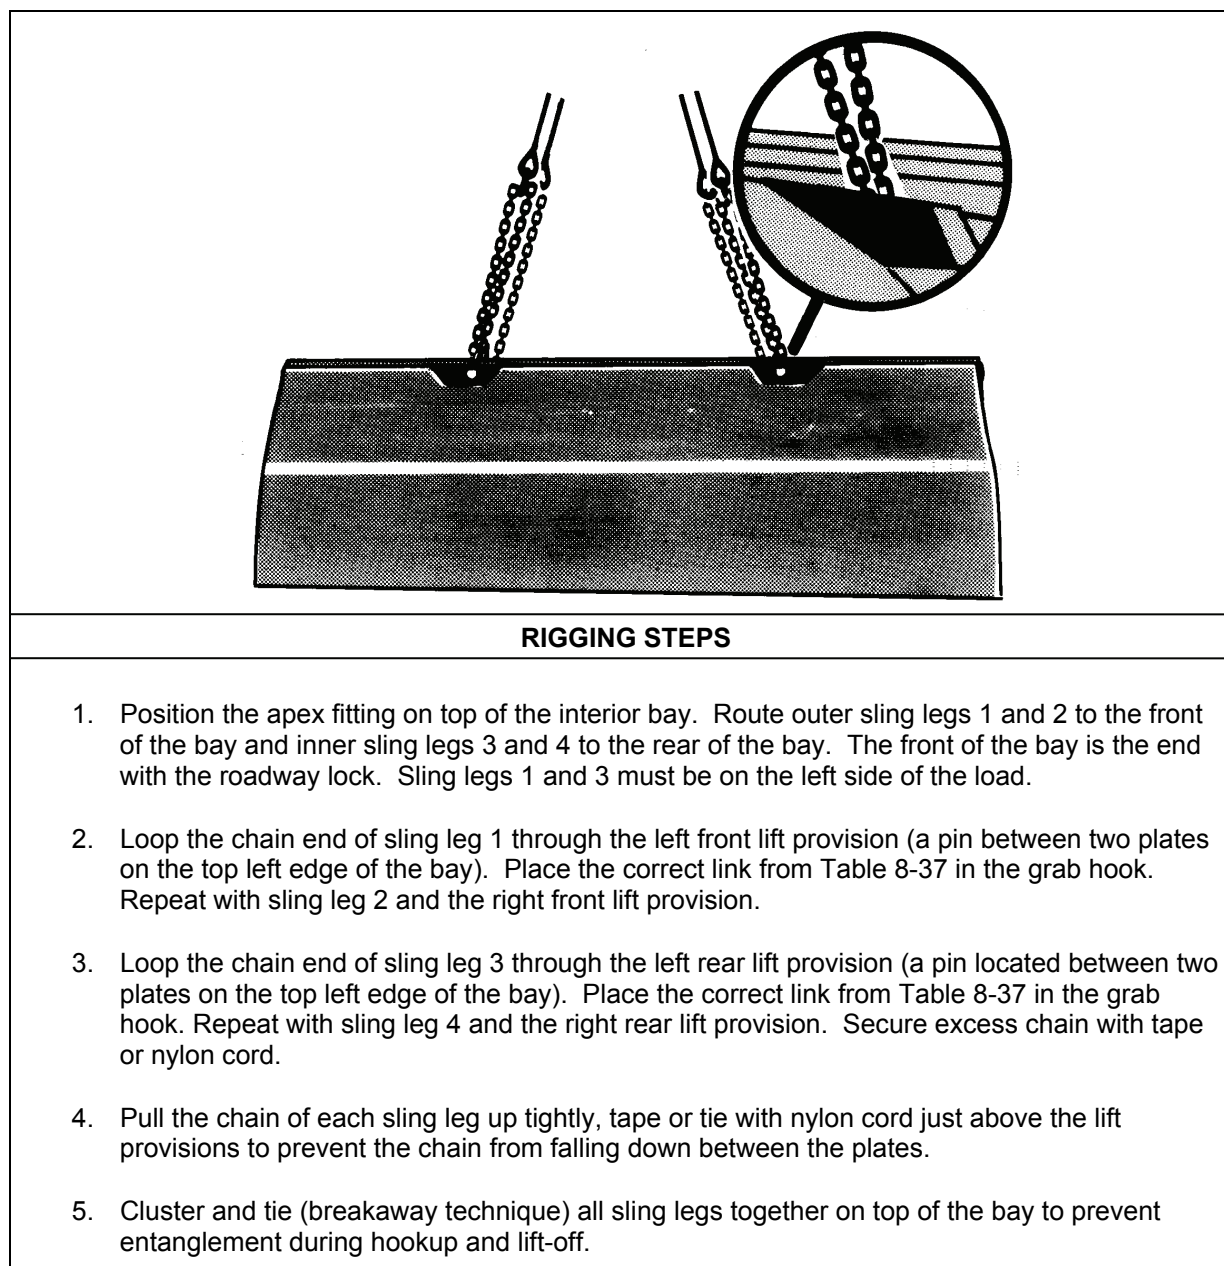

Figure 8-37. Ribbon Bridge, Interior Bay
- **Rigging.** Rig the load according to the steps in Figure 8-37.